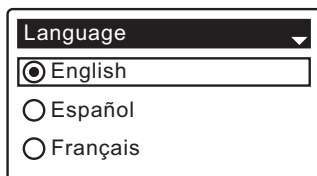

FIG. 13
1. **LANGUAGE** If the desired language already has a black dot next to it (See Figure 13), go to Step 2. Otherwise, press the softener's DOWN (▼) or UP (▲) buttons to scroll to the desired language, then press the SELECT (O) button to choose it.
2. Press the SELECT (O) button to advance to the next "wizard" screen.